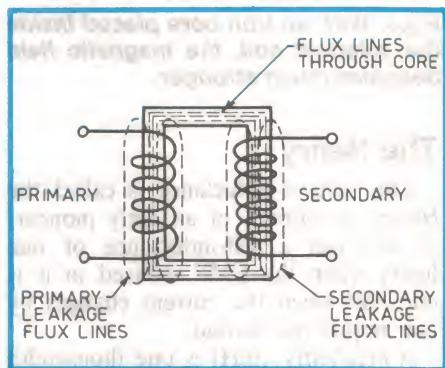

Fig.10: Even though an iron core is coupling two windings, each will have its own ‘leakage’ field.
(1) MAGNETIC LEAKAGE: Some of the flux lines produced by the primary winding current (see Fig.10) ‘miss’ the secondary winding(s) and take shorter paths. The result is that the voltage output of the transformer is slightly reduced. The primary flux that *doesn't* pass through the secondary is known as *primary leakage flux*. To minimise this effect, the transformer coils are often wound ‘on top’ of each other (Fig.8).
(2) RESISTIVE COPPER LOSSES: The resistance of the insulated copper wire used in the windings causes a slight drop in the transformer output voltage. This loss is minimised by the careful selection of the copper wire.